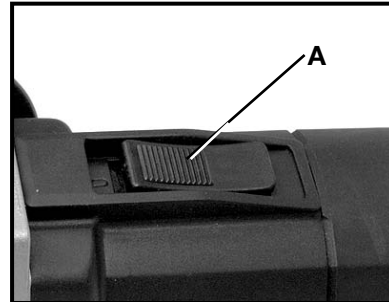

Fig. 1
2. Slide the switch button (A), Fig. 1, forward to turn tool "ON". When released, the switch will return to the "OFF" position.
3. To lock the switch in the "ON" position: with the switch "ON", press the front end of the switch button (A) Fig. 1, in toward the tool housing. To release the switch lock: press the back end of the switch button in toward the tool housing.